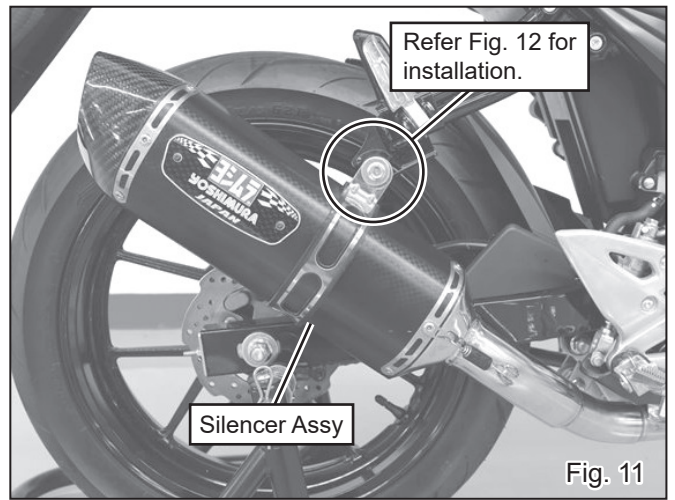

Fig. 11
- 9) Place Silencer Band Rubber into Silencer Band and attach Silencer Band on Silencer Assy. Then, fix Silencer Band to passenger's foot peg bracket with stock bolt, washer, nut and Washer M8x26 (See Fig. 11 & 12). Tighten the nut by hand only at this stage.